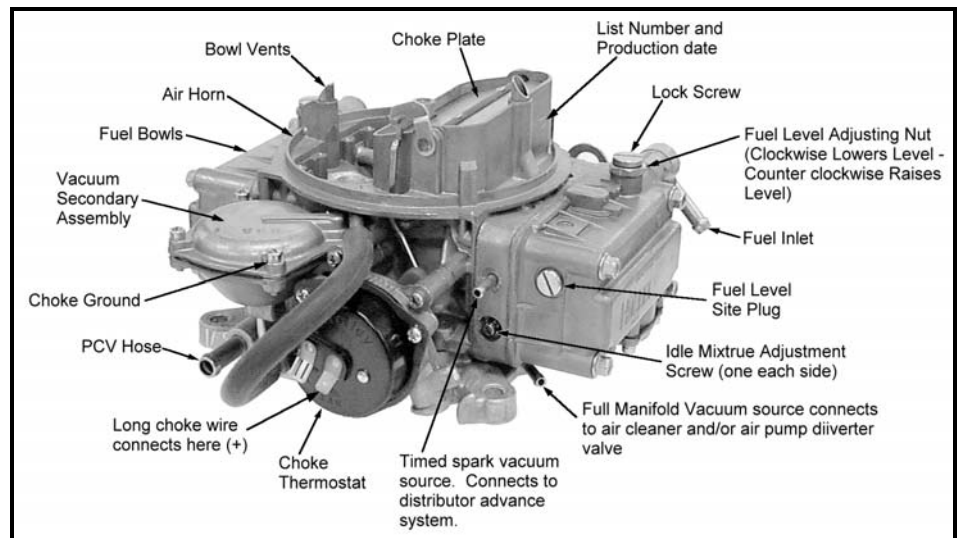

Figure 4
6. Reconnect all vacuum lines and electronic wires that were labeled in the removal of the old carburetor. Use Figure 4 as a guide to locate connections. The full manifold vacuum source in the front of the throttle body provides vacuum for proper operation of the air cleaner, the air pump diverter valve (if the vehicle is so equipped) and/or the temperature sensing valve. The timed spark fitting in the choke side of the primary metering block provides vacuum for operation of the distributor vacuum advance. Connect the hose to the distributor, spark delay valve and/or temperature sensing valve. If vacuum for more than one component is needed plastic "T"s (available at most automotive part stores) may be used to complete the installation.
7. Connect the PCV hose to the PCV fitting in the carburetor. See Figure 4. If the intake manifold has no provision for power brakes, the power brakes hose can be "Tee'd" to this fitting. Connect solenoid wire to the original source wire.